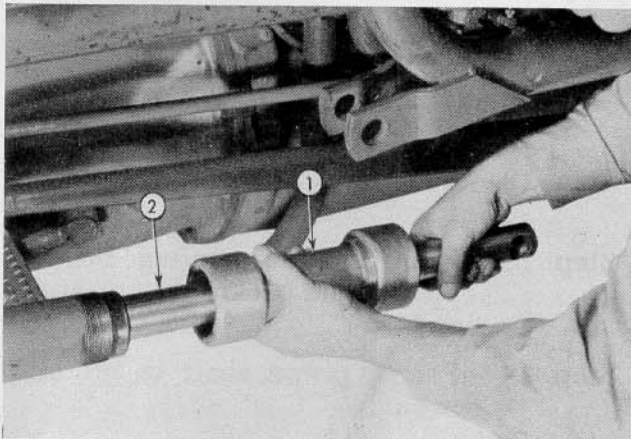

Fig. 8
Step 2—Remove stuffing box (1—Fig. 8) piston shaft (2) from cylinder as a unit.